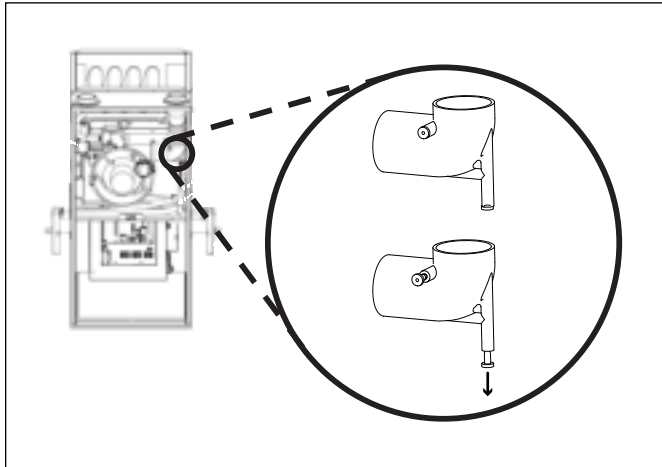

Figure 13
4. Remove cap from the inducer drain port (see Fig. 13).
8. Cut and remove 1/4" from the end of the inducer drain port. Reference Figure 13.